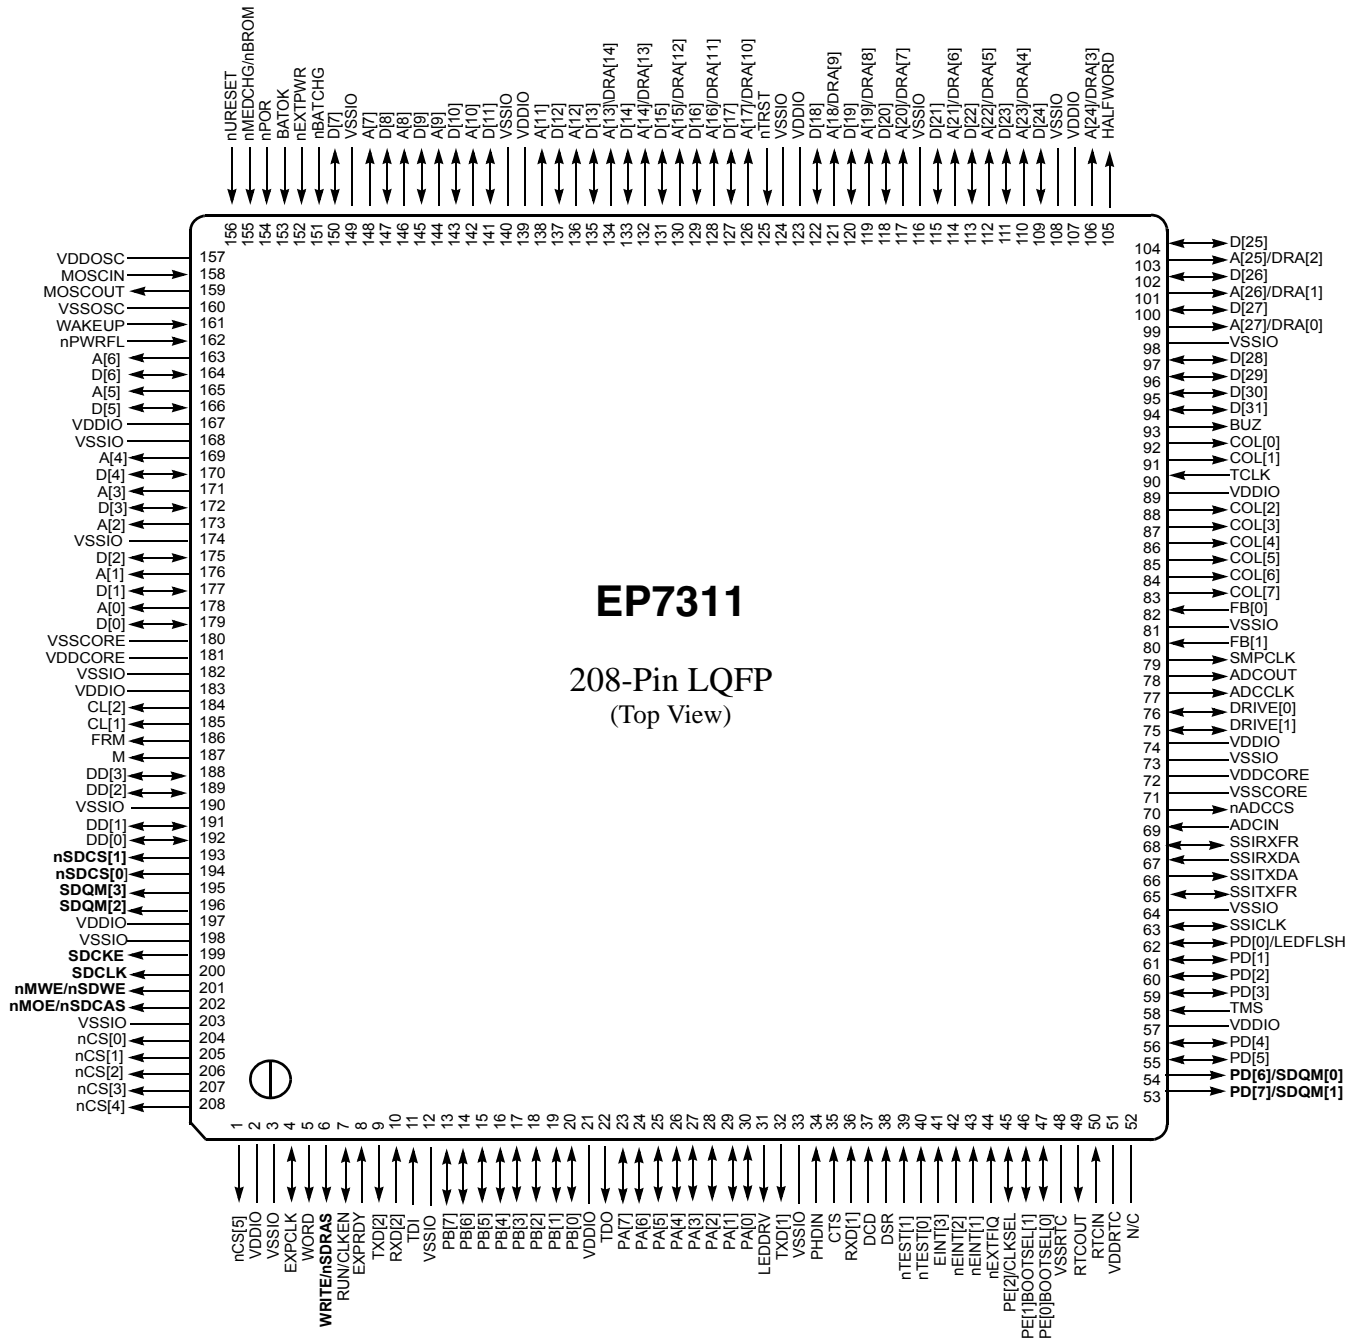

Figure 16. 208-Pin LQFP (Low Profile Quad Flat Pack) Pin Diagram
- 4) For pin locations, please see Figure 16. For pin descriptions see the EP7311 User's Manual.